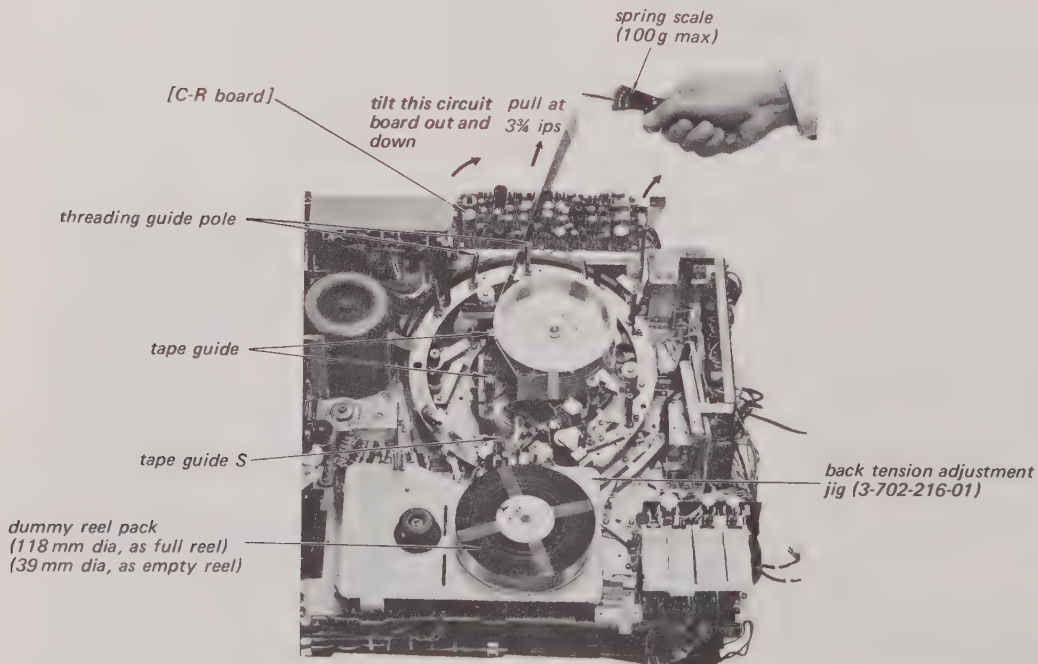

Fig. 5-22. Tension regulator back tension check setup
3. Press the FF button and measure threading back tension while pulling the tape end at $3\frac{3}{4}$ i.p.s. as shown in Fig. 5-22.
2. Set SKEW to mid range (pin opposite the mark on the cam). Press the PLAY button. Pull the tape end with a spring scale as shown in Fig. 5-22 at about $3\frac{3}{4}$ i.p.s. Pull the tape between the guide on the jig and the Tape Guide. Proper reading is 70–75 grams.